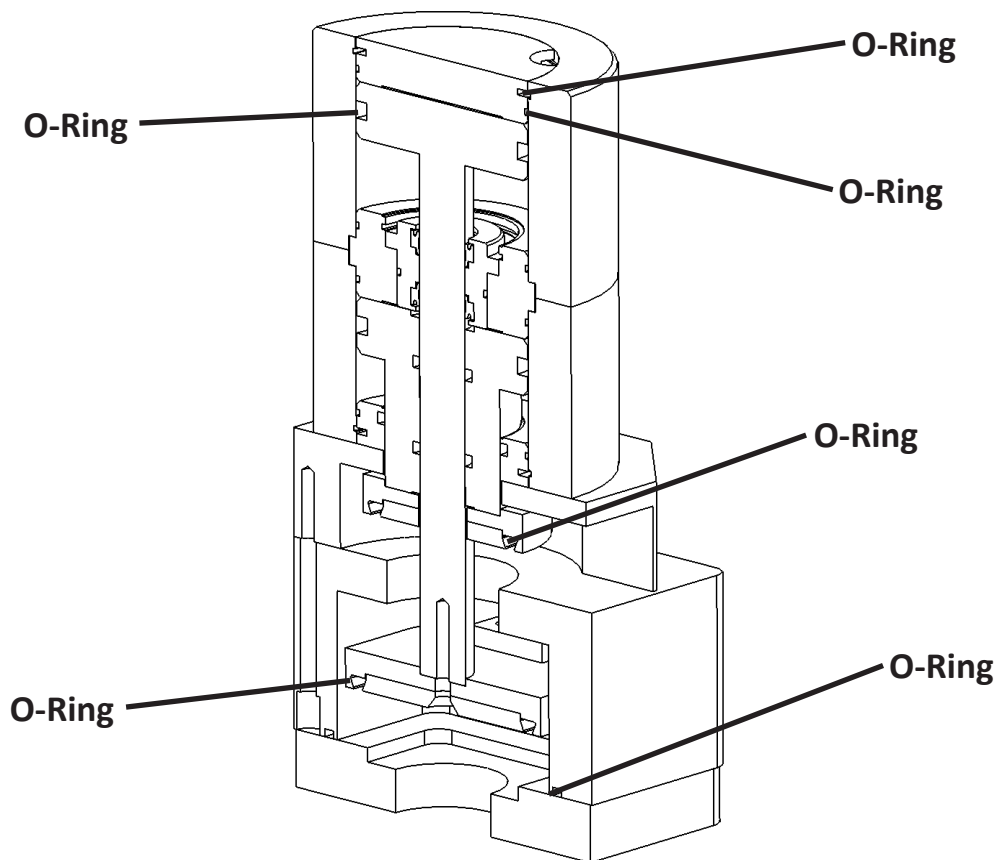

Figure 12.1
5. Replace O-Rings (Figure 12.1) and lubricate with food grade vacuum grease.